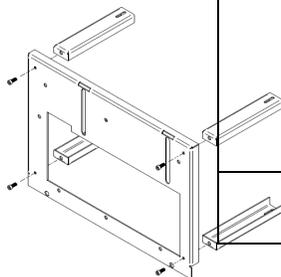

Figure 25 – Auxiliary table assembly
5. With all the support fixed to the wall, the display can be placed on the finishing frame, fixing the display from the front and the box from the rear. We have to connect the two wires of the display and must take into account that the length must be enough to be able to remove without creating any problem or tension or interference of the cable. Finally, the frame must be fitted with the display by attaching the bolts to the fixing springs as shown in figure 25.